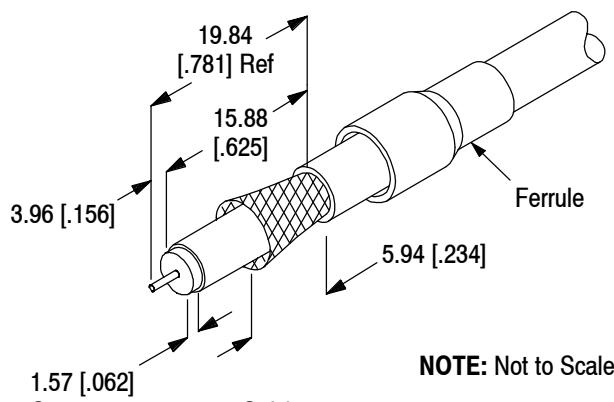

Figure 2
1. Slide the ferrule onto unstripped cable. For the step-down ferrule, make sure that the large diameter end faces the plug body. Then strip the cable using the dimensions provided in Figure 2. DO NOT nick or cut the cable braid. The center conductor must be straight and free of burrs.